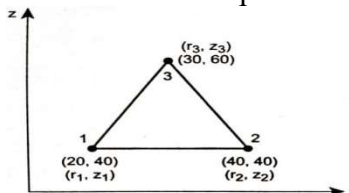

Figure-4
- b) The nodal coordinates for an axisymmetric triangular element are given in figure-4. Evaluate the strain-displacement matrix. 13,K3,CO3